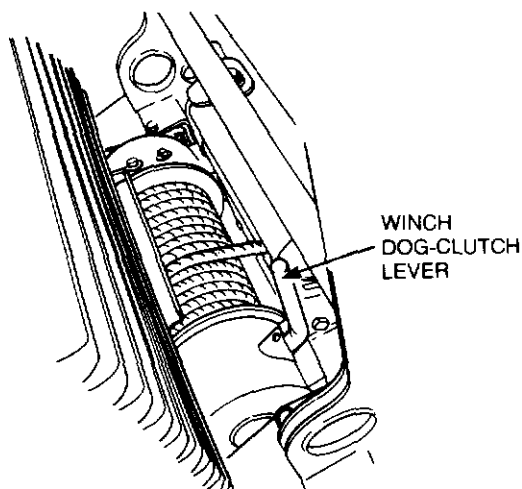

Figure 2-5 Winch dog-clutch operation
- a. Ensure that the engine is switched OFF, then set the winch dog-clutch lever to the vertical position (see Fig. 2-5) to disengage the dog-clutch. Reel out the winch rope as required.